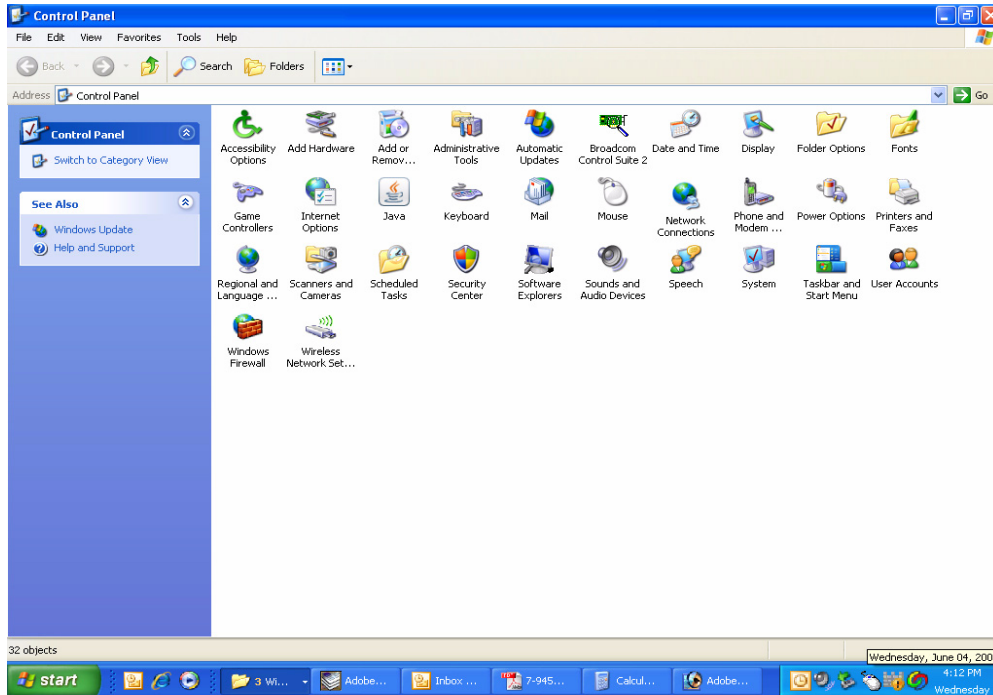

Figure B2: Select the “Network Connections” icon.
- 3) From the “Control Panel” icon selections double click on the “Network Connections” icon. Refer to **Figure B2**.